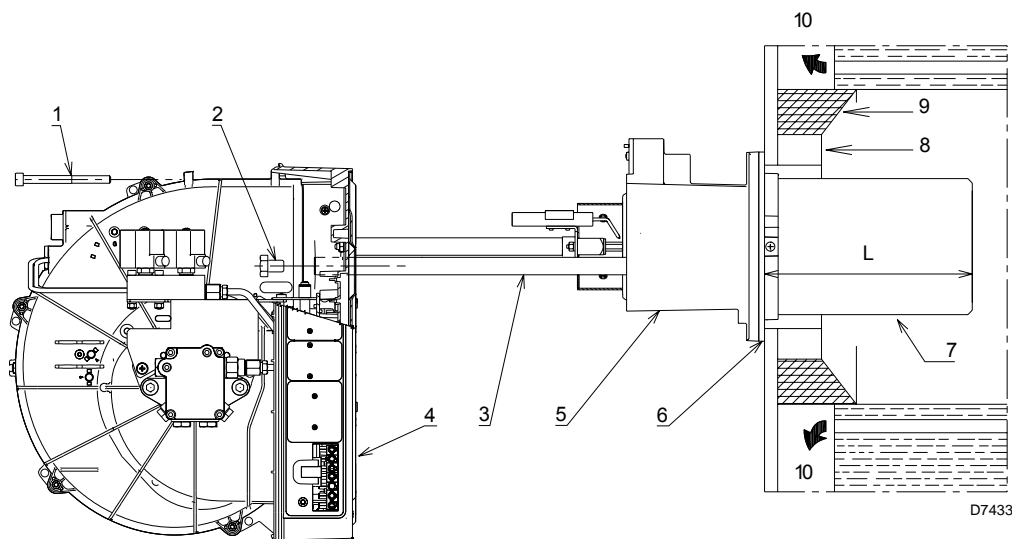

Fig. 9
Blast tube 7)(Fig. 9)	RL 34/1 MZ
For boilers with front flue passes 10)(Fig. 9) or flame inversion chambers, protective fettling in refractory material 8) must be inserted between the boiler's fettling 9) and the blast tube 7).
For boilers having a water-cooled front the refractory fettling 8)-9)(Fig. 9) is not required unless it is expressly requested by the boiler manufacturer.
Dismantle the nozzle assembly 7)(Fig. 9) and the pipe coupling 5) from the burner 4):
- open the burner on its guides as shown in Fig. 9 to page 15;
At this point of the installation, nozzle and pipe coupling are fixed to the boiler as in Fig. 9 to page 15.
- Once the regulation of the head has been concluded, refit the burner 4)(Fig. 9 to page 15) on the guides 3) at approximately 100 mm from the pipe coupling 5).